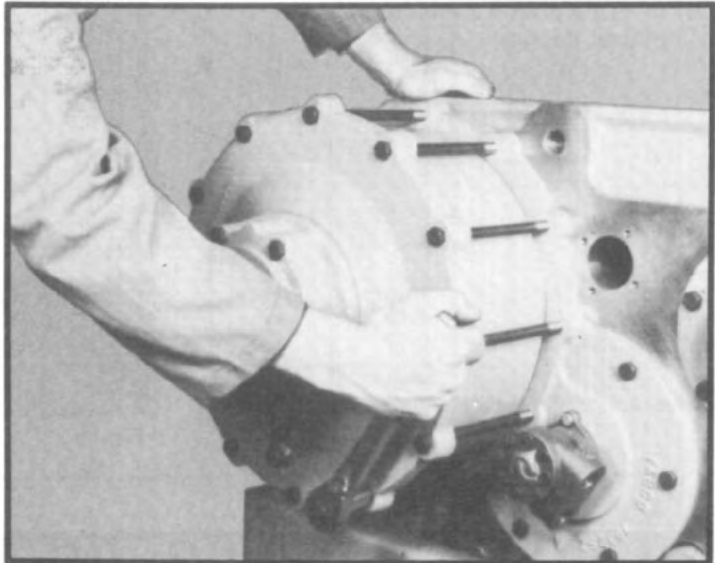

Fig. 60
3.4 Remove 12 long capscrews from planetary cap. (See fig. 60.) Install a bolt or eyebolt to planetary cap through capscrew hole. Using a chain hoist fastened to the bolt or eyebolt, tap the planetary cap until it is free from the planetary housing. Pull cap away from the planetary assembly until it is free from the planetary gears. (See fig. 61.)